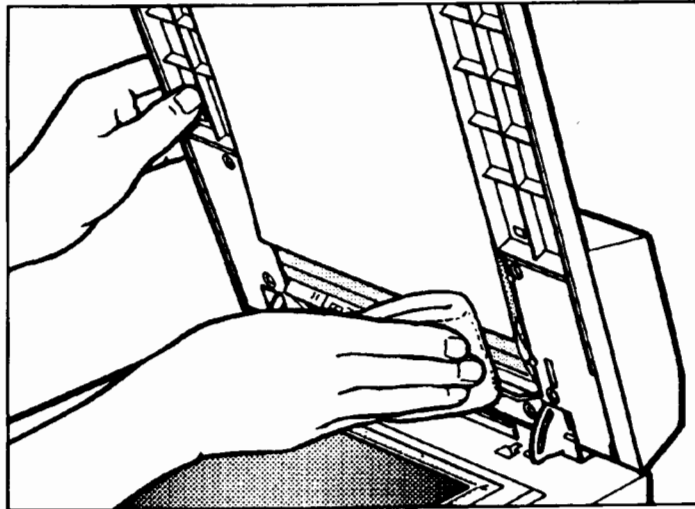

Figure D-18. Cleaning the Mylar Guide
4. When the Mylar guide gets dirty or vertical black lines appear on the printouts from the ADF, clean the Mylar guide gently with a clean, soft cloth. See figure D-18.